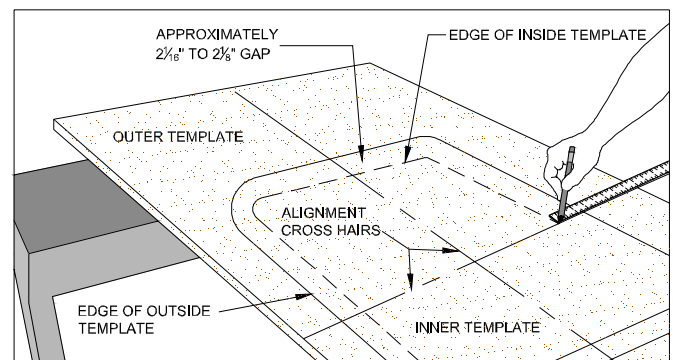

Figure 24C
- Using the dimensions indicated on page 9, Figure 9B for the appropriate gap dimensions, measure and pencil in the line for the inner template. (FIG. 24C)